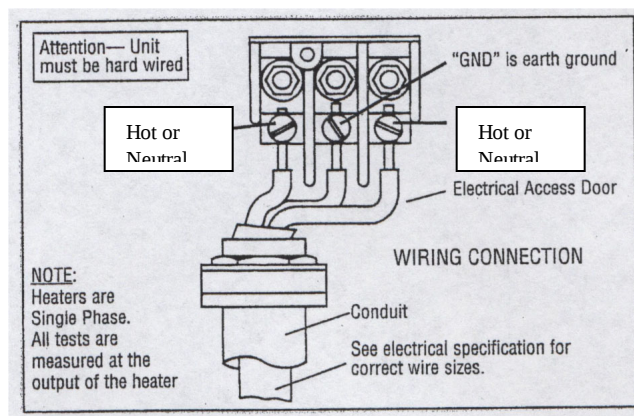

FIGURE 3 Wiring Connection
- Connect wiring. Attach ground wire to center terminal and hot wires to outer terminals (See Fig. 3)